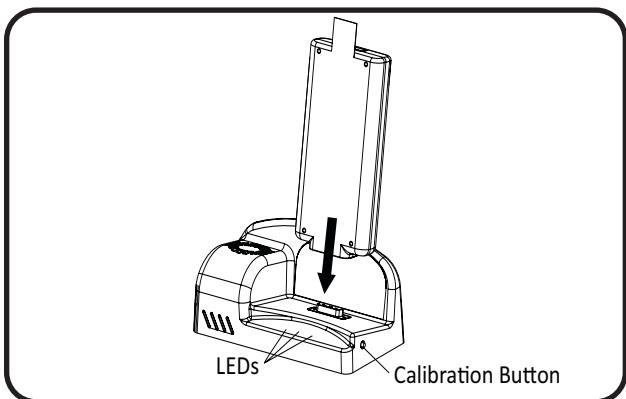

Figure 2
3. Align the battery connector and charger connector and push them together. The MTI Logo on the battery and label pull tab should face out (Figure 2).
Calibration of the battery fuel gauge is achieved by plugging the charger into a properly grounded outlet, connecting the battery to the charger, and then pressing the calibration button on the side of the charger (See Figure 2). While calibrating the battery, keep the charger away from direct sunlight or heat sources in order to avoid calibration errors. There may be a short delay before the calibration begins.